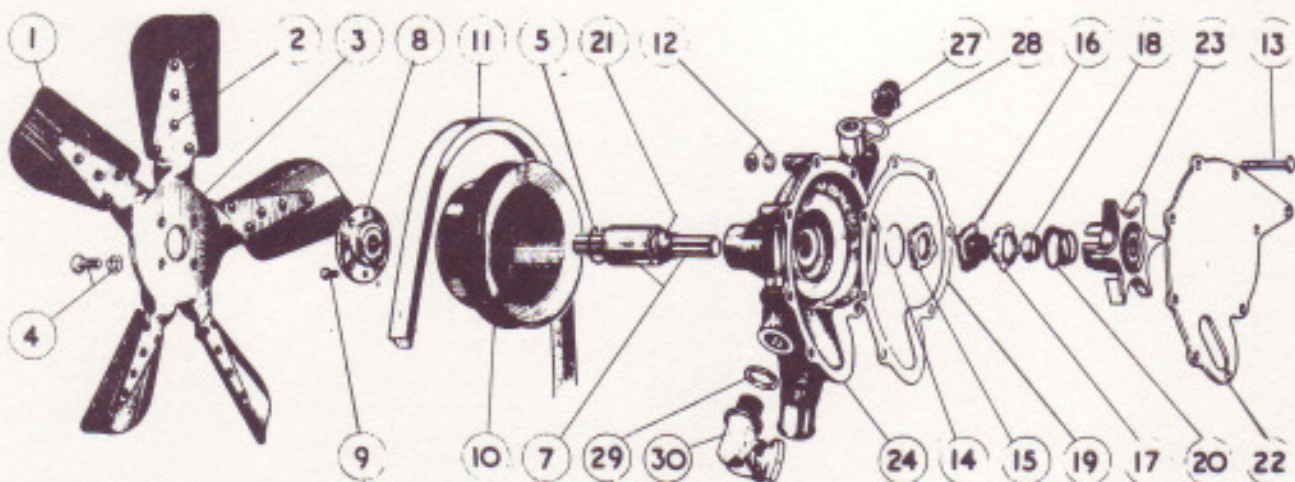
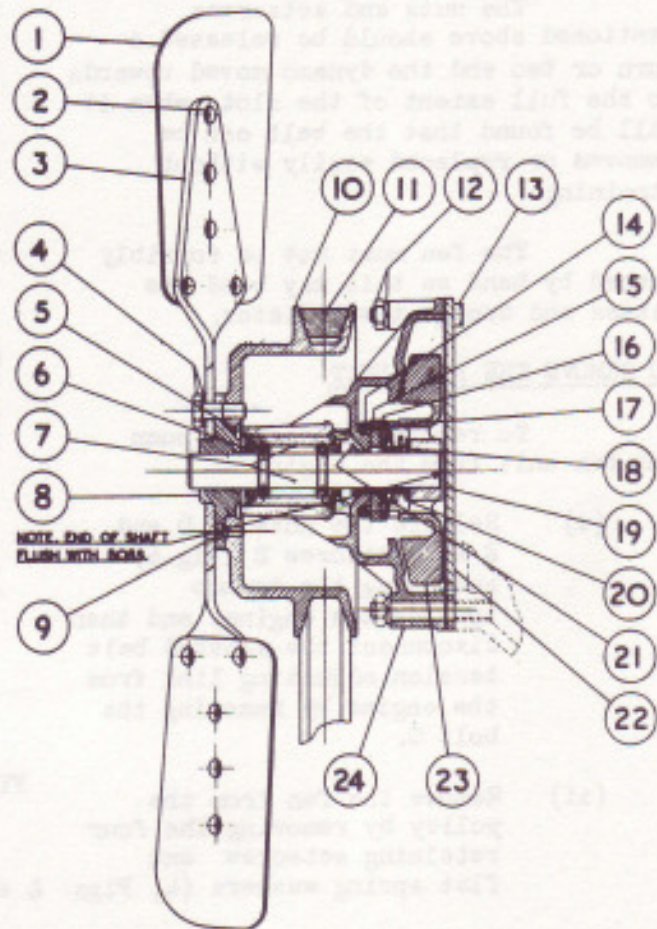

FIG. 4. "EXPLODED" VIEW OF COOLANT PUMP. (SEE NOTATION LIST FOR FIG. 5.)
FIG. 5. SECTION THROUGH COOLANT PUMP.
Fig.4 shows an "exploded" view of the pump and Fig.5 a section through the pump.
The spindle and double-row ball bearings (7, Figs.4 and 5) form a complete unit which cannot be disassembled. The bearing is packed with a special high-melting point grease at the time of manufacture, and requires no further lubrication during its life.
NOTE: The above numbers appear on Fig.5 and also on Fig.4 with the exception of item 6. The numbers below appear only on Fig.4.
- (ii) Remove the fan from the pulley by removing the four retaining setscrew and flat spring washers (4, Figs. 4 and 5).
Press the flinger on to the longer end of the new spindle and bearing until the flinger is a distance of $.300''$ + or $-.015''$ from the outer race of the bearing. Reference to Fig.5 will indicate correct way round for flinger.